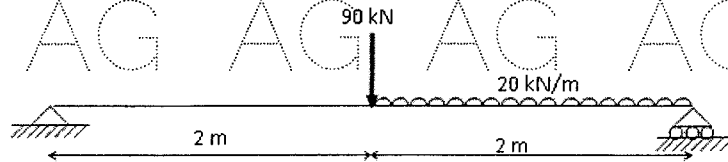

Figure: 8
6. Using unit load method, determine the vertical deflection at mid-span of a simply supported beam loaded as shown in figure 8. Assume the flexural rigidity is 3000 kNm^2 .